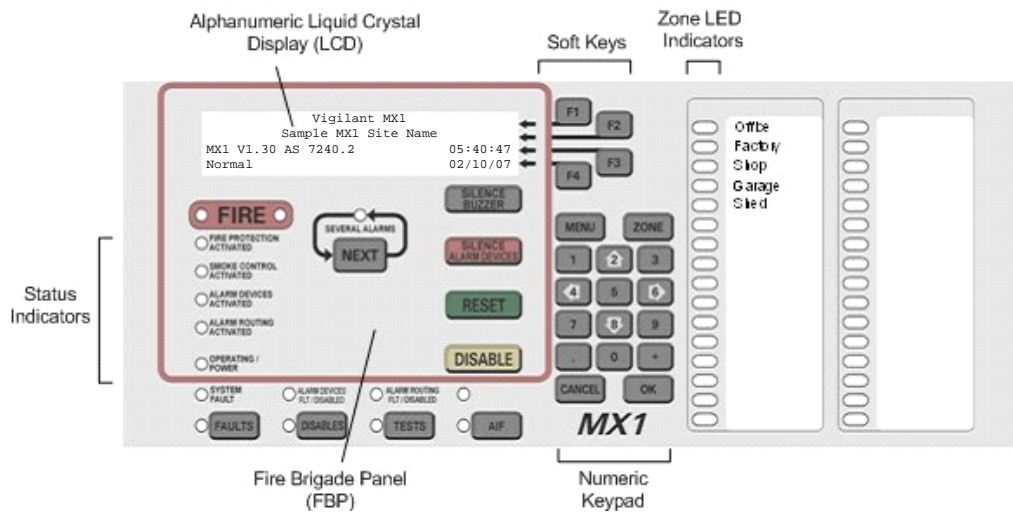

Fig 1-1 Operator Interface
- The LCD reports that the system is normal and shows the current time and date, as shown in Figure 1.1.
If the general state of the operator interface is not as shown in Figure 1.1, refer to the information in Chapters 2 and 3 for instructions on managing the alarm, fault, test or disable condition.